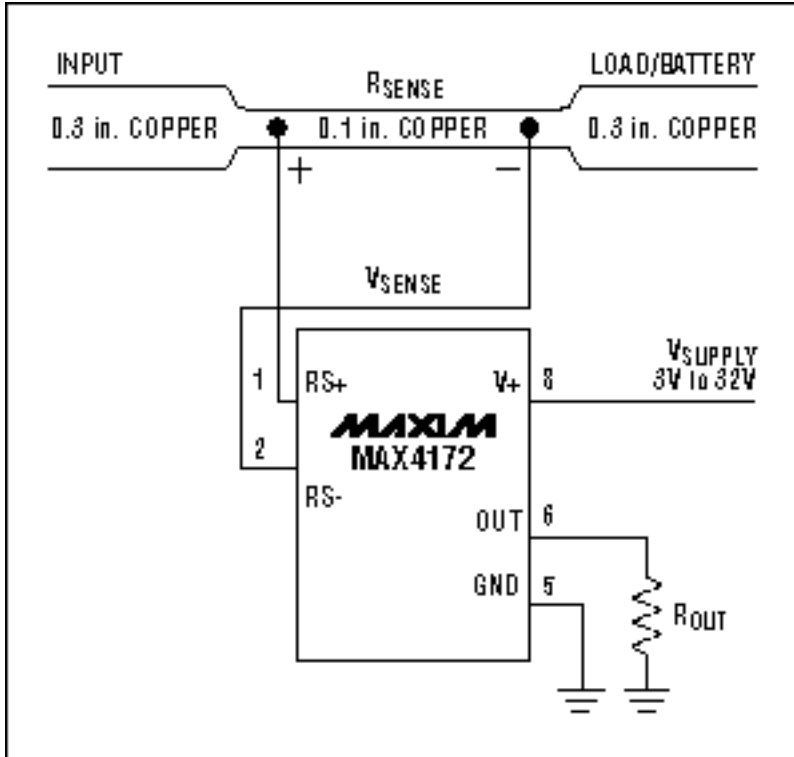

Figure 10. This high-side current monitor (MAX4172) employs a PC-board trace for R_{SENSE} .
- **Cost:** Using a PC-board trace as a sense resistor (**Figure 10**) is an alternative method for applications where the cost of R_{SENSE} is an issue. You will need to adjust the full-scale current value with a potentiometer because of inaccuracy in the copper resistance. The resistance temperature coefficient of copper is fairly high (approximately $0.4\%/^{\circ}\text{C}$) in systems that undergo wide temperature variations.